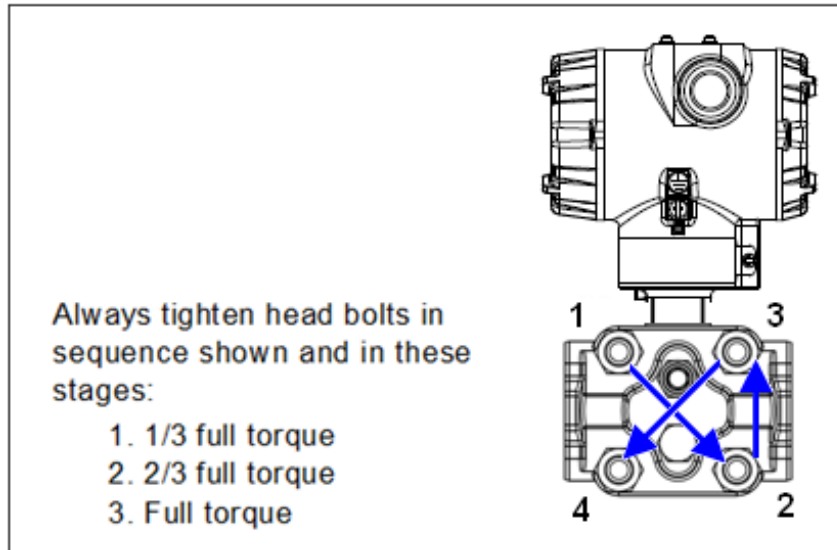

Figure 23 – ST 700 Standard Transmitter - Head Bolt Tightening Sequence
4. Loosen the nuts in the sequence shown in Figure 23.
12. Using a torque wrench, gradually tighten the nuts in the sequence shown in Figure 23. Tighten head bolts in stages of 1/3-full torque, 2/3-full torque, and full torque. Refer to the values in Table 18 for torque requirements versus Transmitter type and model.